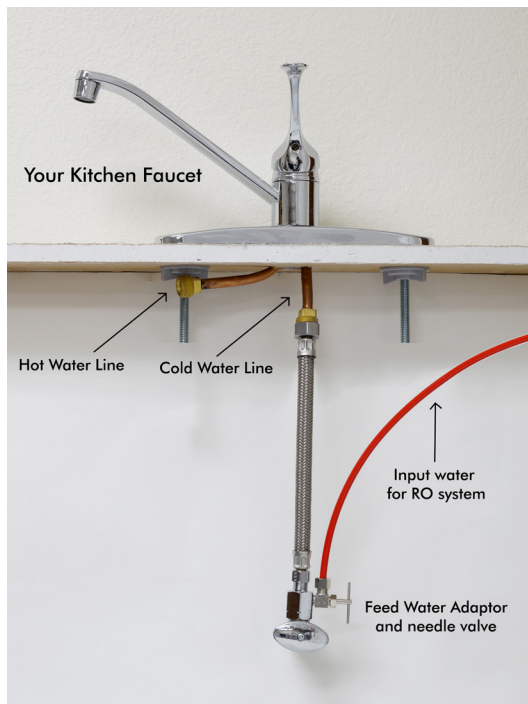

Fig. 6D
3. **Recommend Connection For Flex Line Riser:** See **Fig.6A. & Fig. 6D.** Loosen nut and separate cold water riser tube from faucet shank. Gently bend riser tube so that the Feed Water Adapter (Fig 5) fits onto the faucet shank. If your riser tube has no built-in washer, then fit the cone-shaped washer provided onto the riser tube. Connect the riser tube, the feed water adapter, and faucet shank together and **tighten**.